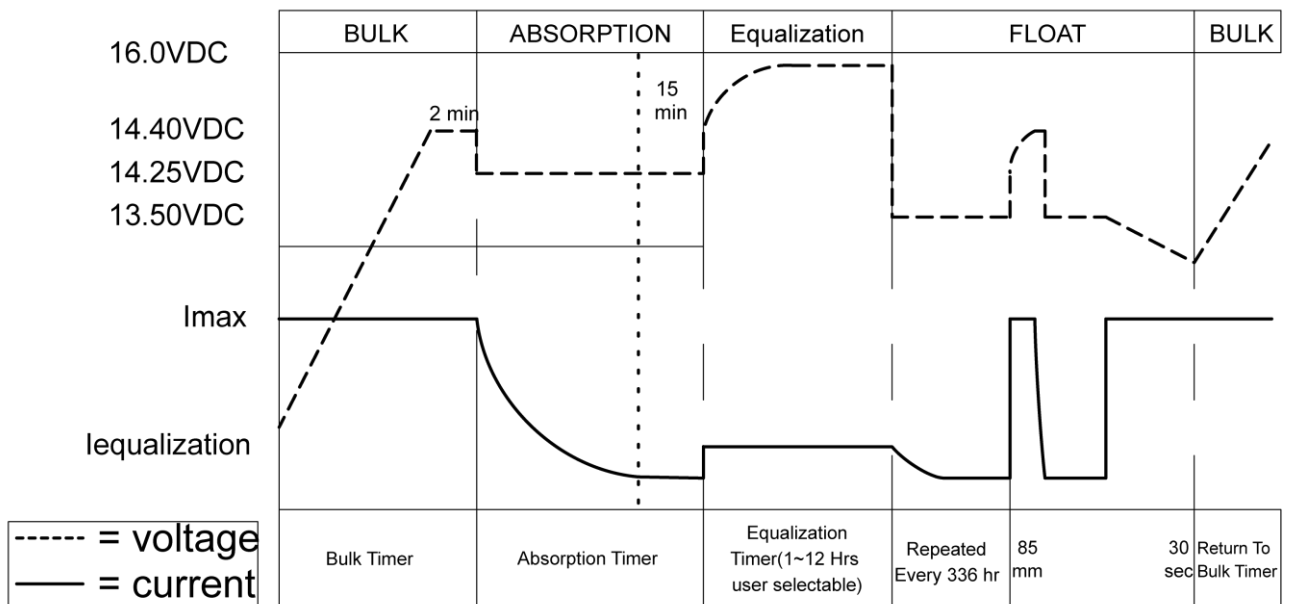

Fig 13. Equalization stage (@12V battery)
- Recommendations of the battery manufacturer are to be followed for equalizing the batteries as the equalization voltage, time and frequency will depend upon the specific design of the battery. The Equalization Voltage will normally be in the region of 2.5 to 2.7 V per cell at 25 ° C / 77 ° F e.g. 15 to 16 V for 12 V batteries and 30 to 32 V for 24 V batteries. As a guide, a heavily used flooded battery may need to be equalized once per month and a battery in light duty service, every two to four months.(See fig13)
taken in the Bulk Stage be designated by “Bulk Timer” and the calculated Absorption Time by “Absorption Timer and the Equalization time by “Equalization Timer”. One of the recommended logics for calculations is as follows(See Fig 13):